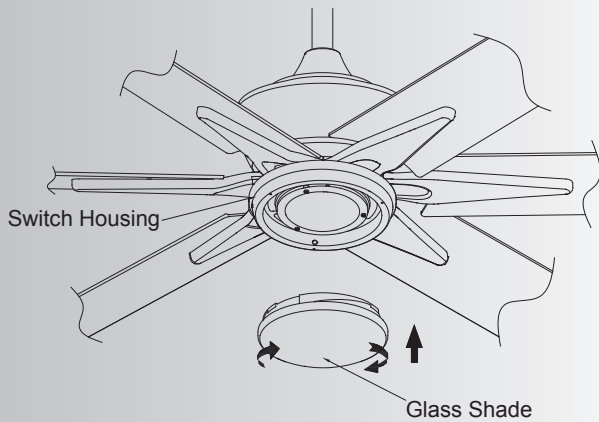

Fig. 22
**Step 3.** Secure the glass shade to switch housing by twisting in a clockwise direction. Do not over-tighten. (Fig. 22)